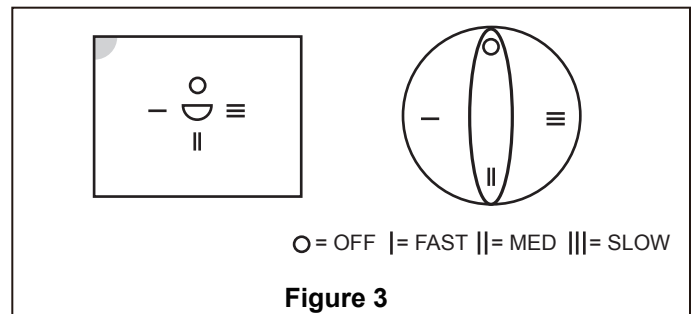

Figure 3
1. Drill a hole in the ceiling board and batten for wiring. Securely attach the hanger bracket to a timber batten or other structural support using appropriate fasteners. (Figure 3)
INSTALLATION NOTE: The "O" and the small corner cut-out on the front of the switch mechanism must be at the top and top left respectively (See Figure 3).